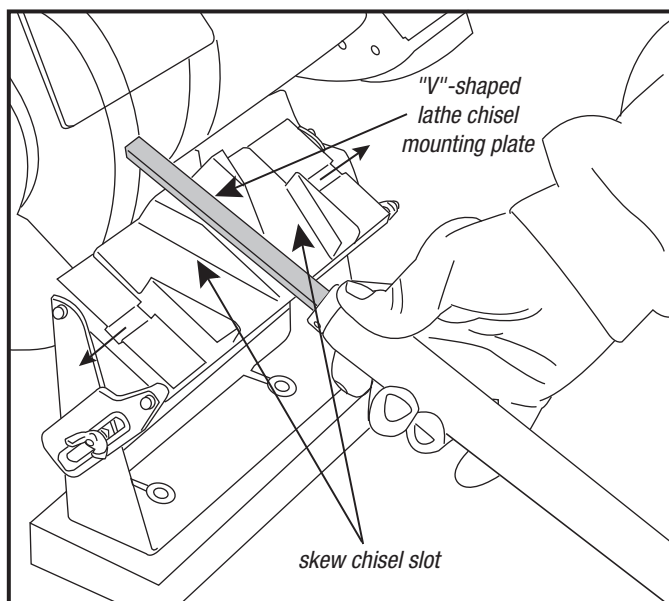

Fig. 3
- When using the "V"-shaped plate, for cleaner blade edges, rest your thumb on top of the chisel handle and grip the chisel firmly (Fig. 3). Apply an even pressure, rock slowly side to side, and sharpen as usual. If your tool can be sharpened on both sides, repeat this step.